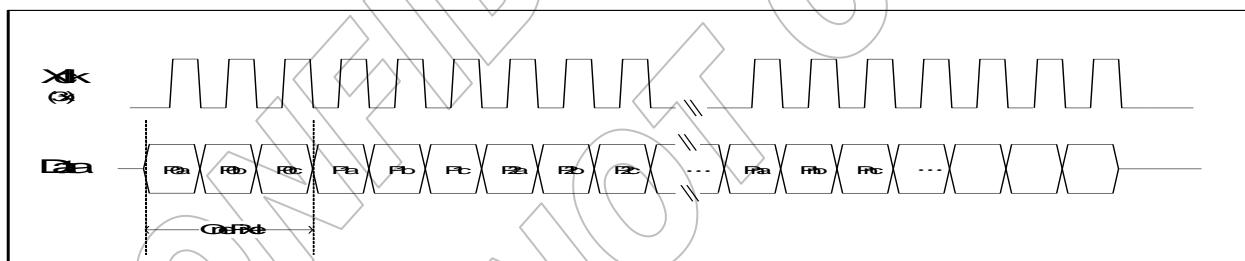
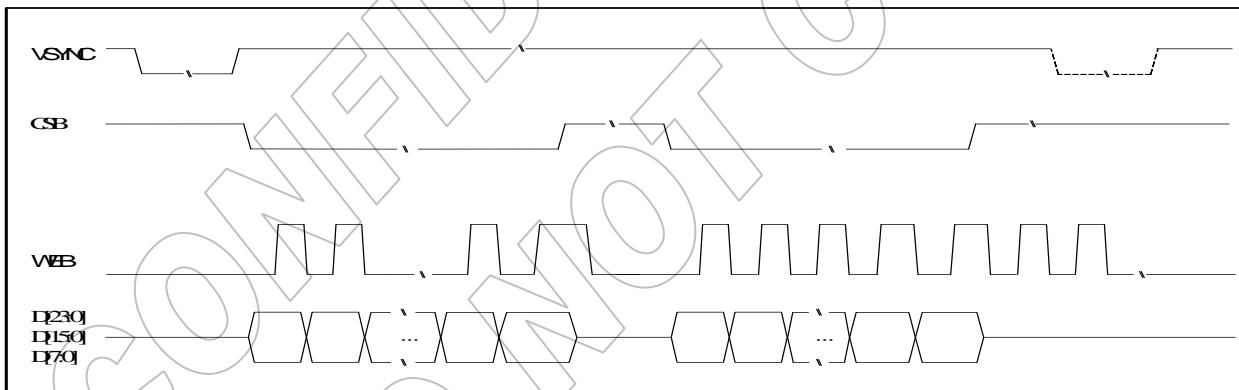

Figure 3: Clock and Data Input Timing in 3x Multiplexed Mode
Figure 7: 80/86 MPU Interface Timing
| Figure 3: Clock and Data Input Timing in 3x Multiplexed Mode ..... | 10 |
| Figure 7: 80/86 MPU Interface Timing .....                         | 11 |
**Figure 3 to Figure 7** below shows the timing diagram for input data and clocks. The timing requirements are given in later section.